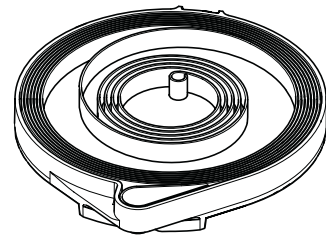

Fig. 4
8. Fit the flywheel puller. Tighten down the two M5x25 bolts approx. 10 turns. Exercise care on saws with generators, which can be damaged if the screws are tightened too deep. Tighten the centre bolt, while preventing rotation with the holding tool until the flywheel releases. See fig. 4.